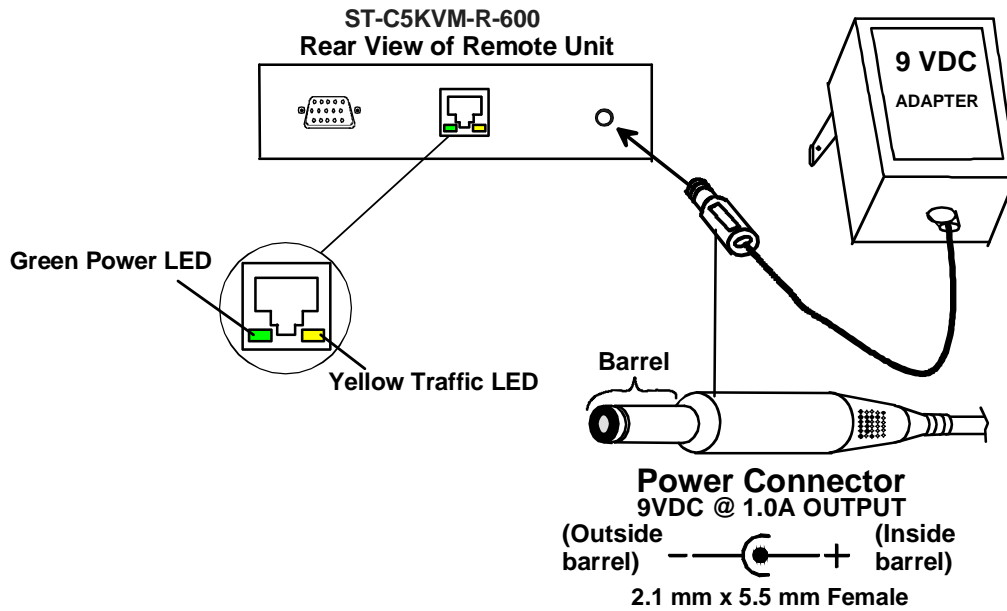

Figure 15- Connect the AC adapter to the Remote Unit
2. Connect each AC adapter power connector to the 9VDC ports on the Remote and Local Units. Plug each AC adapter into a power outlet. The green LED on the RJ45 connector of both the Remote and Local Units should illuminate, indicating that a proper power connection has been made to them. (See Figure 15.)
Note: The Traffic LED on each RJ45 connector will illuminate anytime data traffic is passing between the Local and Remote Units, indicating proper CAT5 cable connection and communication. (See Figure 15)